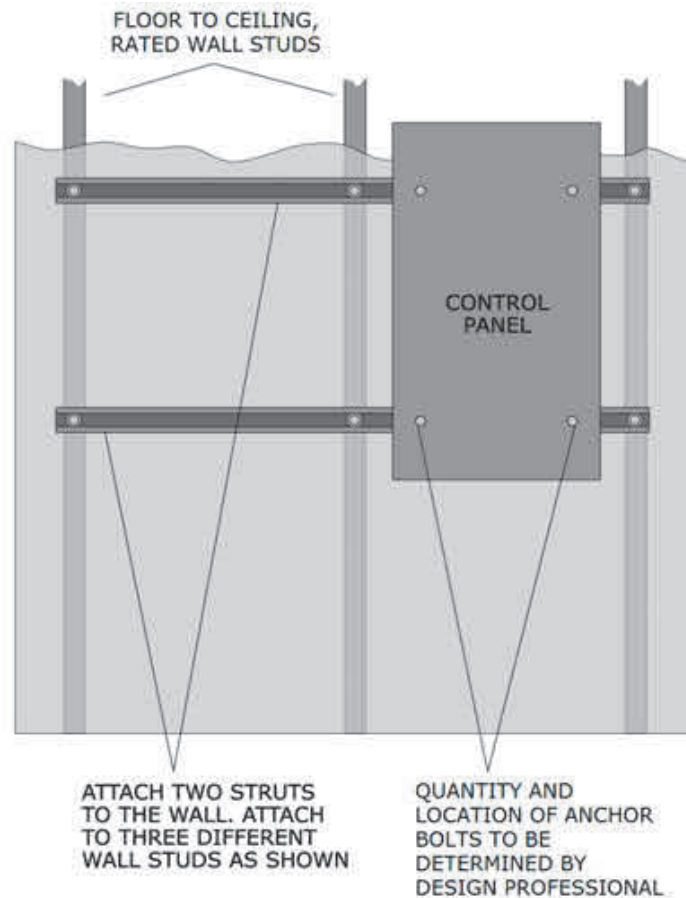

Figure 158: Direct attachment of a strut assembly support to fire rated wall.
- Walls with wall anchors as shown in Figure 158 (page 127).
Use bolts or weld support framing together as shown in Figures 155 to Figure 158 (pages 125-127). See Steel Bolt and Sheet Metal Screw Connections (page 111), or Welding (page 116) for more information.
- To attach strut to wall studs, see Figure 158 (above).